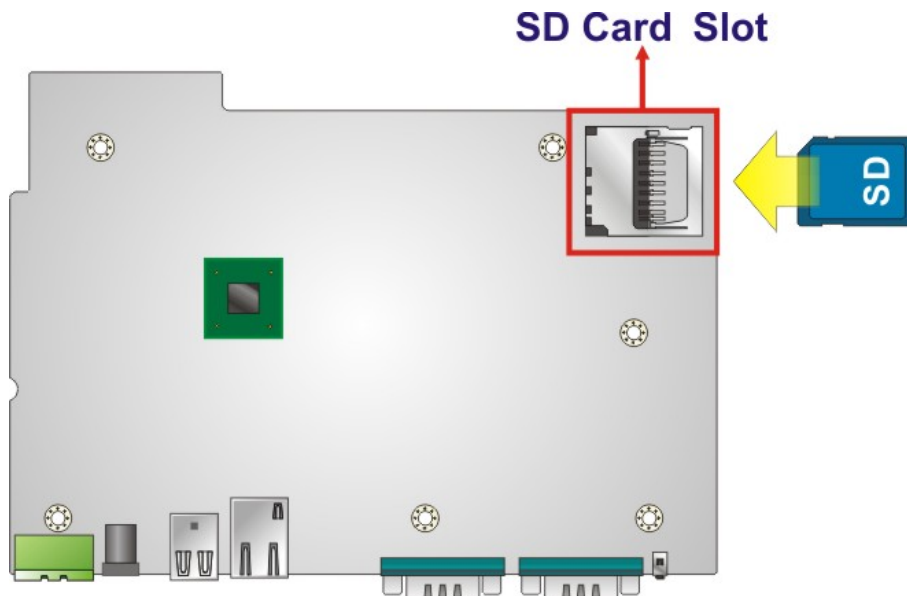

Figure 3-3: SD Card Installation
Step 4: Locate the SD card slot (**Figure 3-3**).
Step 5: Insert the SD card into the slot (**Figure 3-3**).